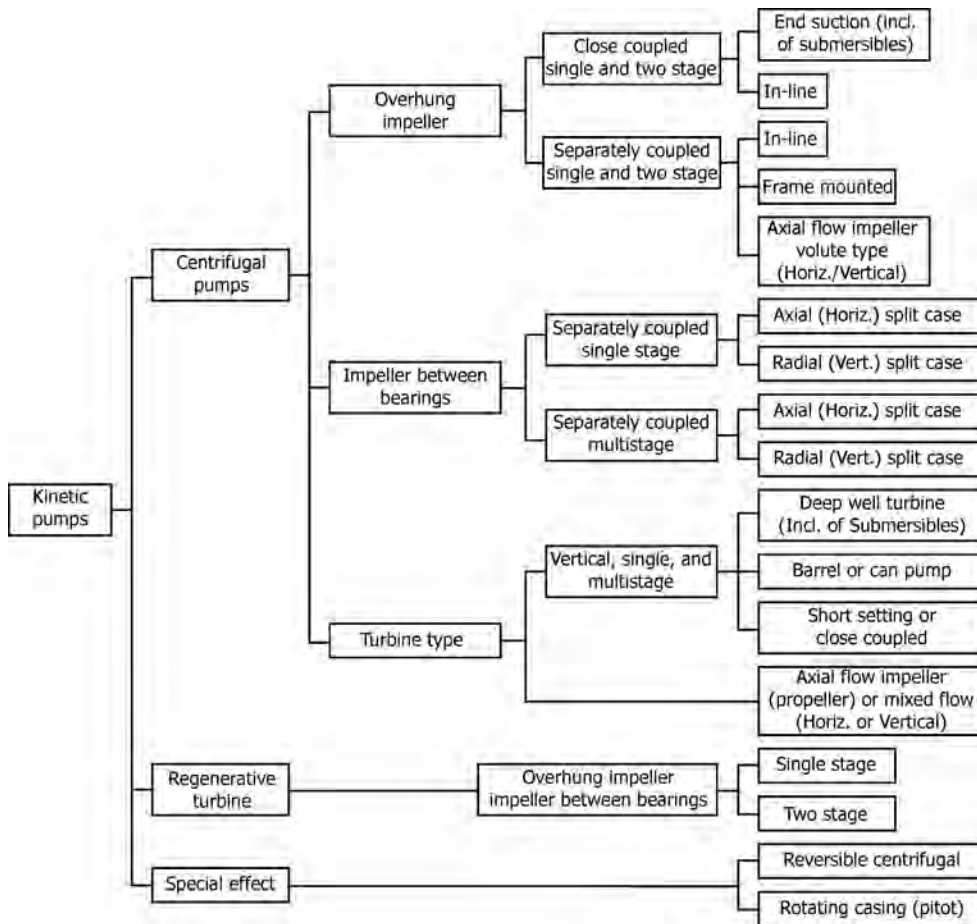

FIGURE 5.2 Classification of kinetic pumps. (Source: Hydraulic Institute.)
- Hydraulic Institute classifies pumps by type, not by application, into two basic types, namely, kinetic types and positive displacement types, which are detailed in Figures 5.2 and 5.3.